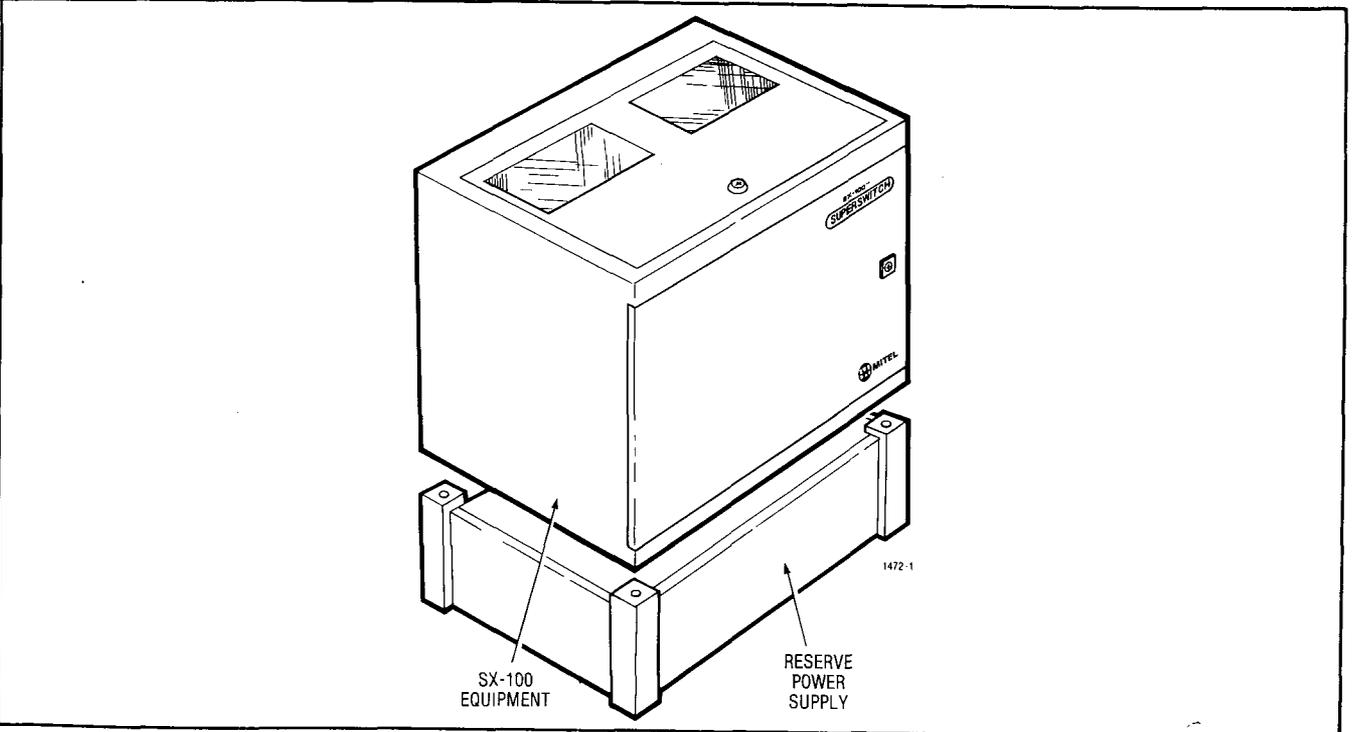

Fig. 6-5 SX-100 Reserve Battery Back-Up
- The SX-200 is protected by fuses which are located on the back door of the cabinet (Fig. 6-5). The back door has imprinted upon it a circuit description defining each fuse and the circuit breaker. In addition to these fuses there are a series of LEDs which also are defined by the circuit on the back door. These LEDs will be lit if there is power in the area that they designate, or in the case of the reserve battery backup, if the battery is connected. In addition to the cabinet door fuses, there are fuses located on the backplane, interconnect card and power fail transfer card. The fuses on the backplane are for - 48Vdc and have an LED which will be lit if the fuse blows and there is a card in one of the associated slots. The